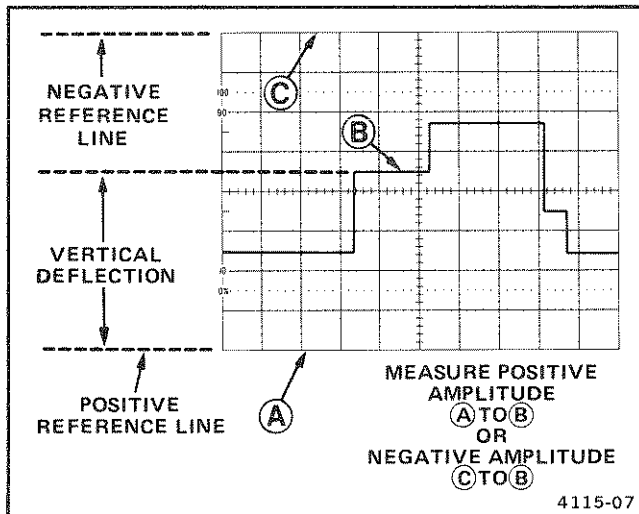

Figure 4-3. Instantaneous voltage measurement.
11. Measure the divisions of vertical deflection between the reference line and the desired point on the waveform at which the dc level is to be determined (see Figure 4-3).
EXAMPLE: The measured vertical deflection from the reference line is 4.6 divisions (see Figure 4-3), the waveform is above the reference line, the VOLTS/DIV switch is set to 2, a 10X attenuator probe is being used, and the A TRIGGER SLOPE switch is set to OUT: $\sqrt{\quad}$.